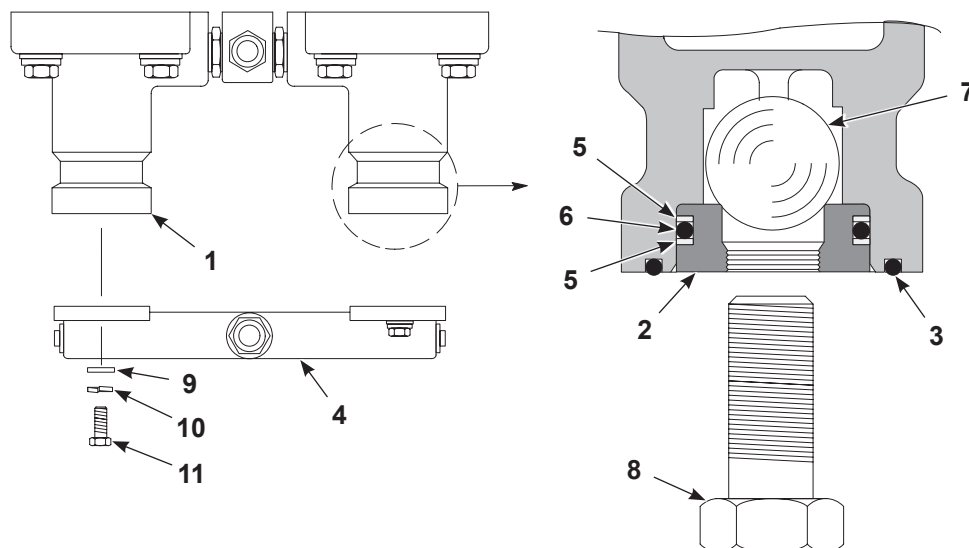

Figure 6-6 Siphon Ball Check Rebuild
1. See Figure 6-6. Remove the four screws, lock washers, and flat washers (9, 10, 11) securing the siphon manifold (4) to the hydraulic housings (1). Separate the siphon manifold from the hydraulic housings.
2. Thread the seat tool (8), furnished with the pump, into the seats (2). Pull on the tool until the seat breaks loose from the hydraulic housing. Remove the balls (7).
2. See Figure 6-6. Remove the siphon manifold from the hydraulic housings.